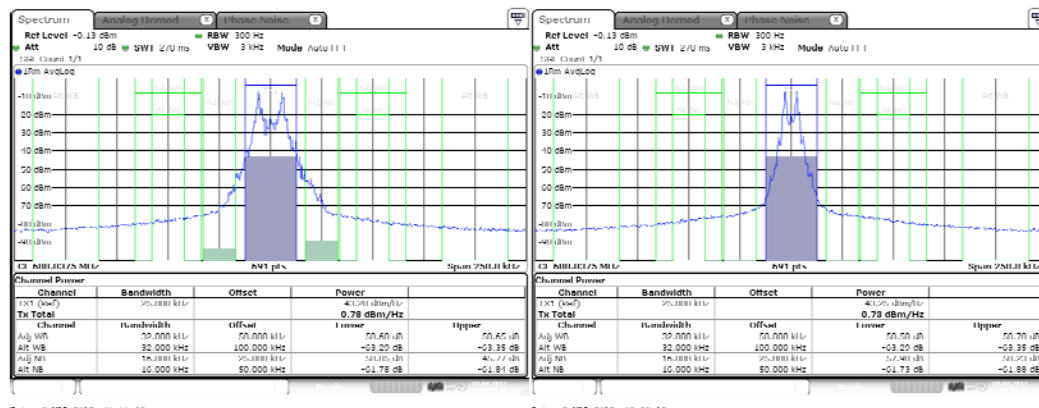

Fig 5 – ACP measurements: wideband (left) and narrowband (right)
5. Make an Adjacent Channel Power (ACP) measurement and verify that it is similar to fig 5, +/- 3dB.